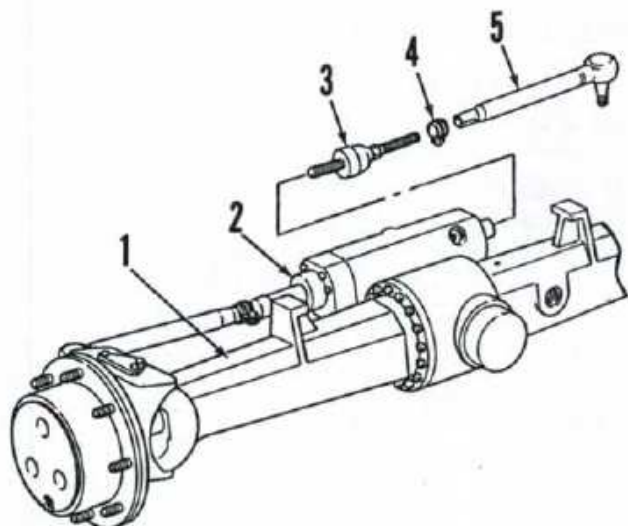

Fig. 40—Steering cylinder is contained in back side of front drive axle housing.
**32. OVERHAUL.** The power steering cylinder is contained in the back side of front drive axle housing. See Fig. 40. Cylinder can be disassembled without removing axle assembly.
Apply Loctite 242 to the first three threads and install threaded studs (3—Fig. 40) in cylinder rod ends.